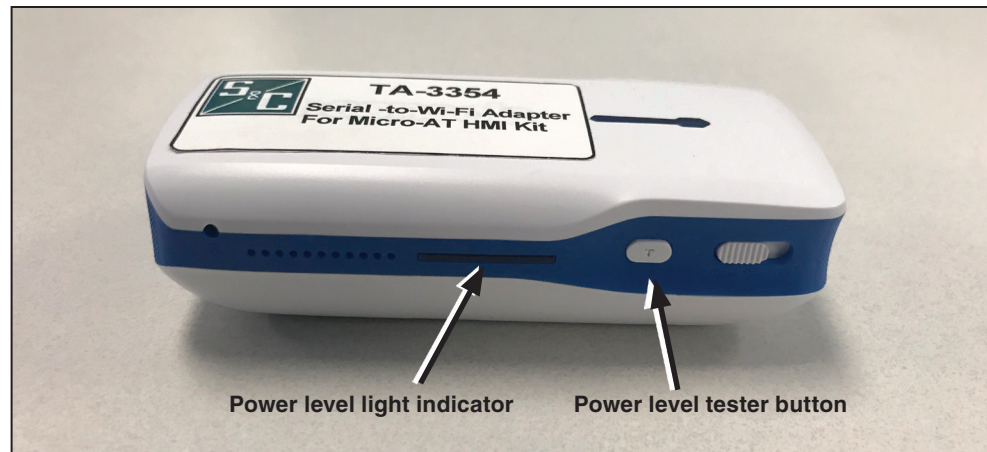

Figure 6. The light indicator and testing button used when verifying the adapter's power level.
STEP 3. To verify the power level, press the **T** tester button next to the slider switch. Three (or four, depending on the model) blue indicator lights should appear when the unit is fully charged (4-5 hours of runtime). See Figure 6.